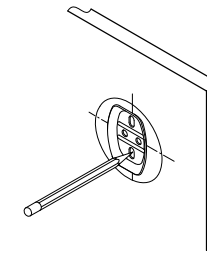
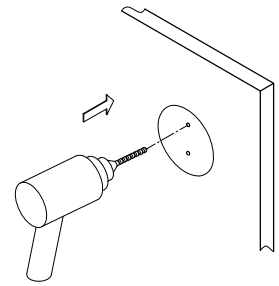

Fig. 2
Fig. 3
- Step 2. Place the mounting plate in the center of the pencil outline you just made and mark the location of the mounting screws (Fig 2). Drill holes at the marked locations (Fig 3).